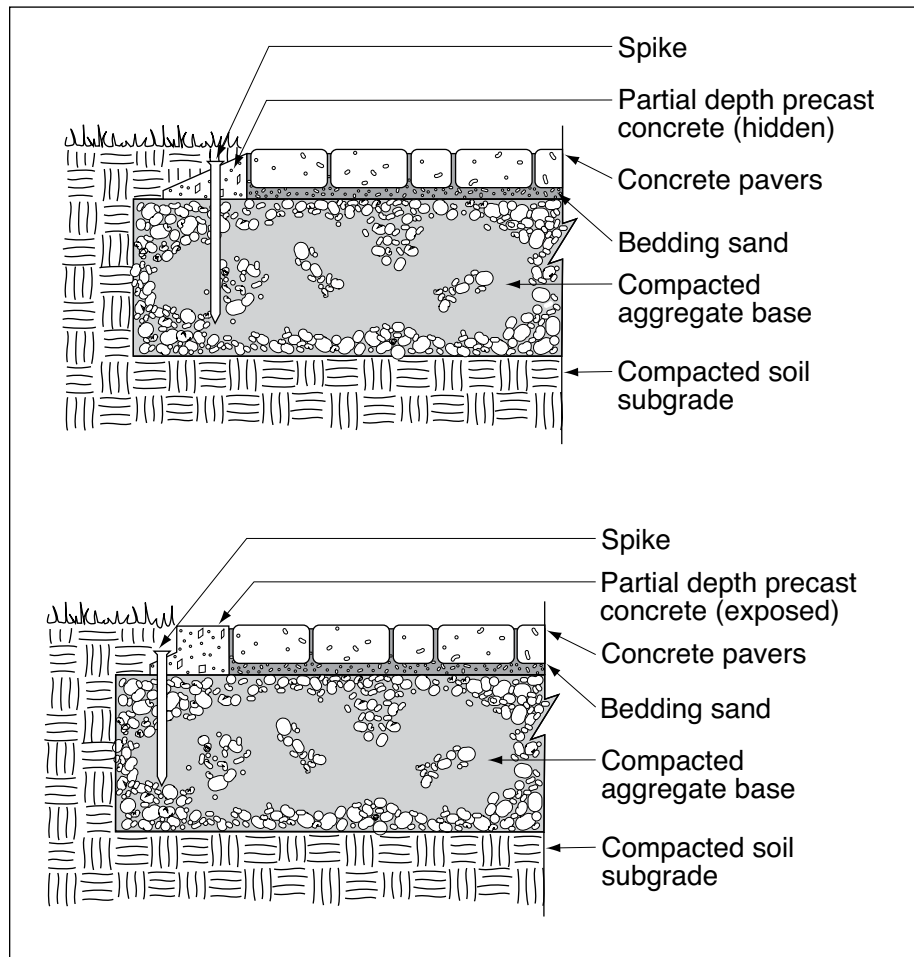

Figure 4. Partial depth precast concrete edge.
**Partial depth precast concrete** edge restraints may be used for residential and light duty commercial applications. (Figure 4). These precast units are anchored on a compacted aggregate base with steel spikes. The spikes are typically 3/8 in. (10 mm) diameter. Depending on the design, the top of the concrete edge can be hidden or exposed.